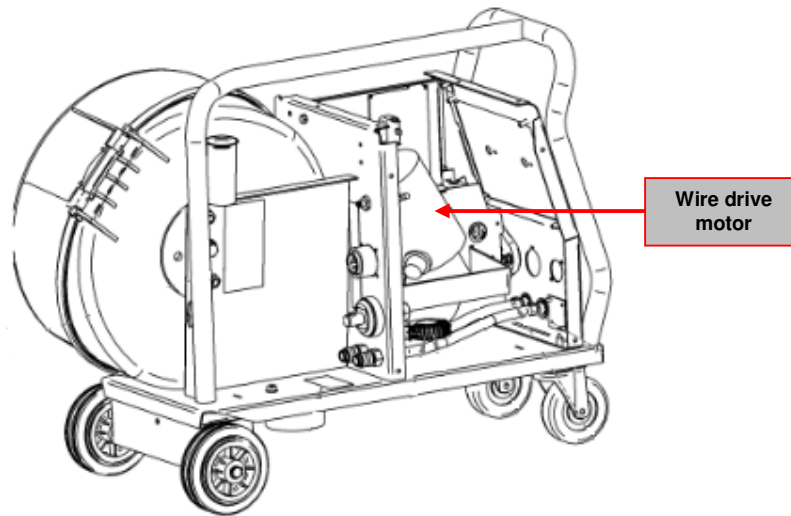

Figure 3 – Wire drive motor location
3. Located the wire drive motor. See **Figure 3**.